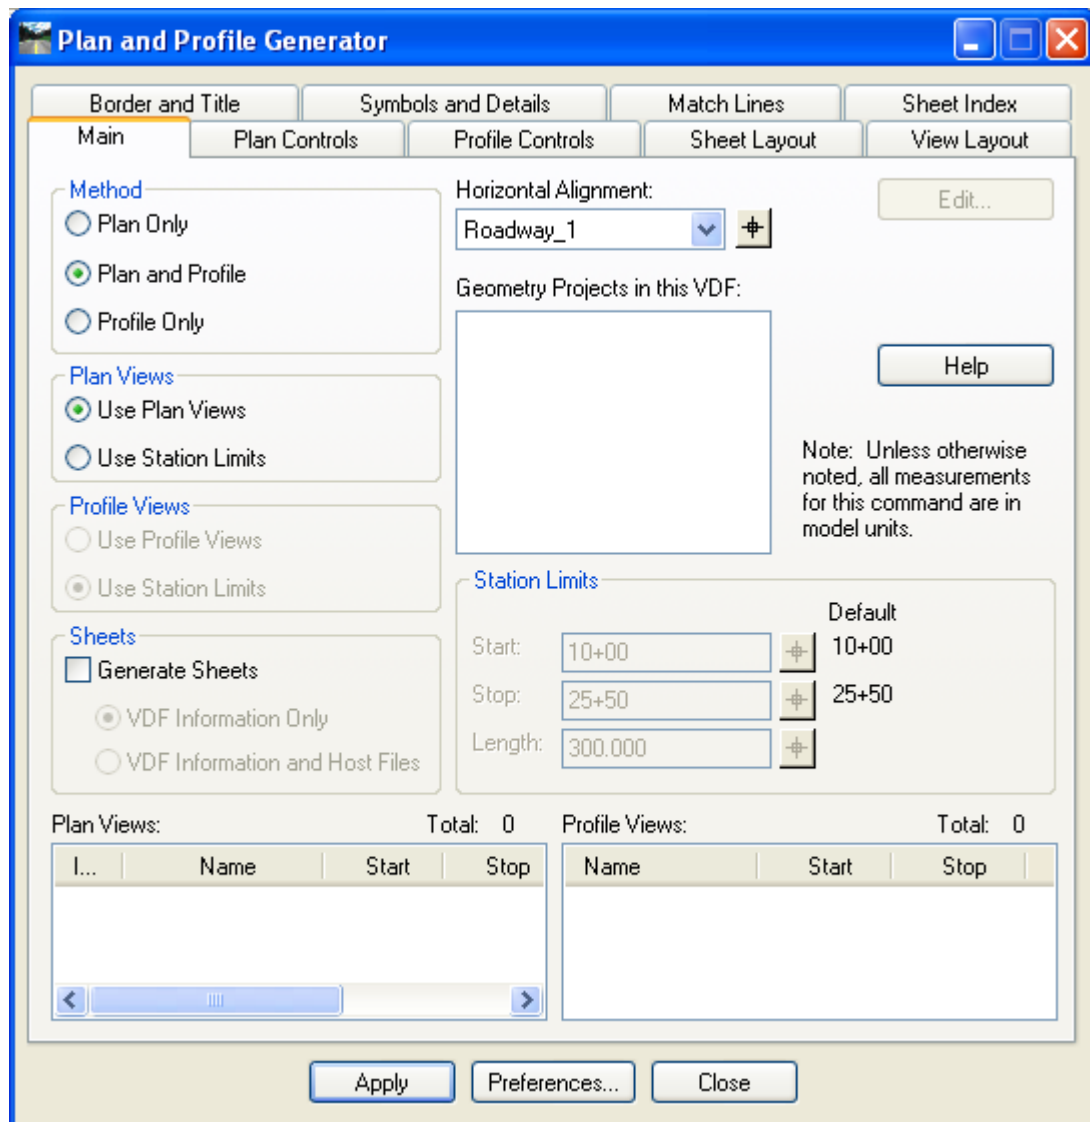

Figure 10-1 InRoads Plan and Profile Generator Main Tab
- B. Click **Drafting > Plan and Profile Generator**. Click on **Preferences** at the bottom of the dialog box and choose **Highway Plan Bdr Format** or **Facilities Plan Bdr Format**. Figure 10-1 shows the dialog box for the Plan and Profile Generator.